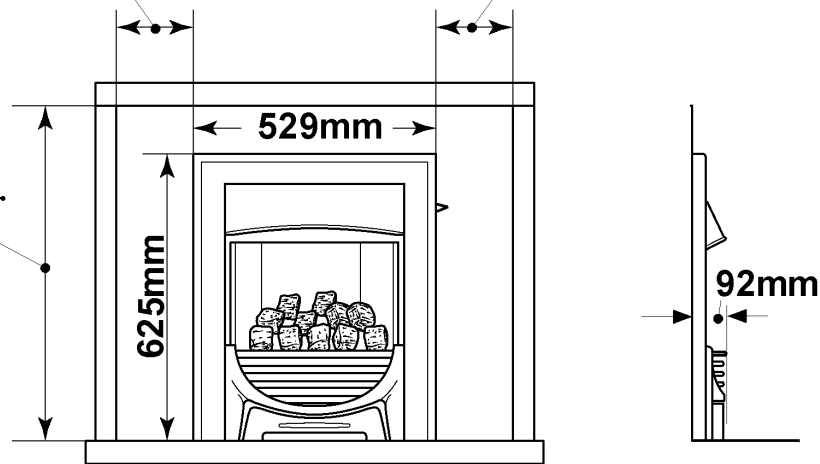

Fig. 1 Appliance dimensions
**Do** provide a minimum side clearance as detailed in figure 1. Please bear this in mind if ever you are considering altering the room.